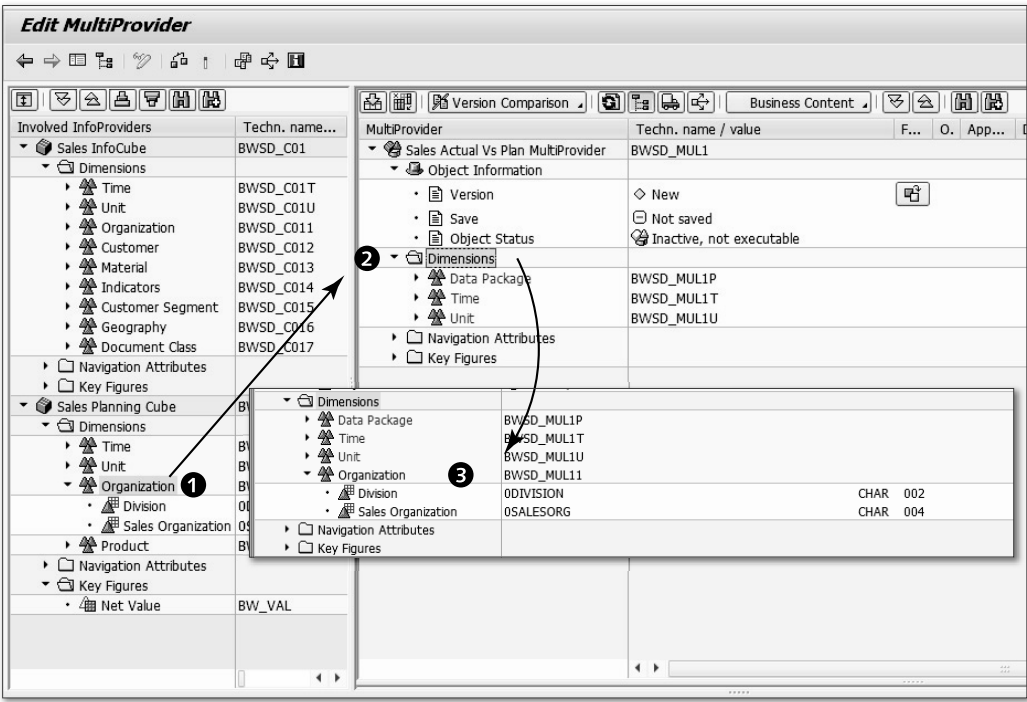

Figure 6.8 Edit MultiProvider: Dragging and Dropping Dimension
You can either create new dimensions or directly drag and drop dimensions from any of the InfoCubes, as shown in Figure 6.8. Select the ORGANIZATION dimension ❶, and then drag and drop it over DIMENSIONS ❷. The outcome of this activity is that the ORGANIZATION dimension is available in MultiProvider BWSD_MUL1, with both the characteristics (SALES ORGANIZATION and DIVISION) ❸ of the base InfoCube (BW_PLAN/Sales Planning Cube).